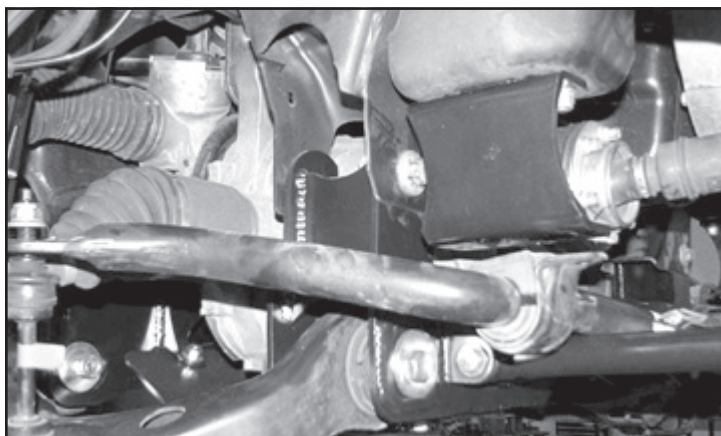

FIGURE 51 - STEP 44
44. Install the factory sway bar using the Fabtech driver and pass brackets (FT30492) (FT30493). Install the factory sway bar link in to the end of the sway bar and lower control arm mounting. Torque Brackets and links to 52 ft.-lbs. **SEE FIGURE 51**